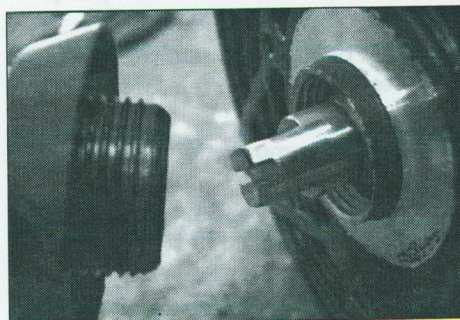

Figure 4
7. Remove motor shaft cover on rear of motor (see Figure 4). Use a wrench or a large screw driver to stop motor shaft rotation.